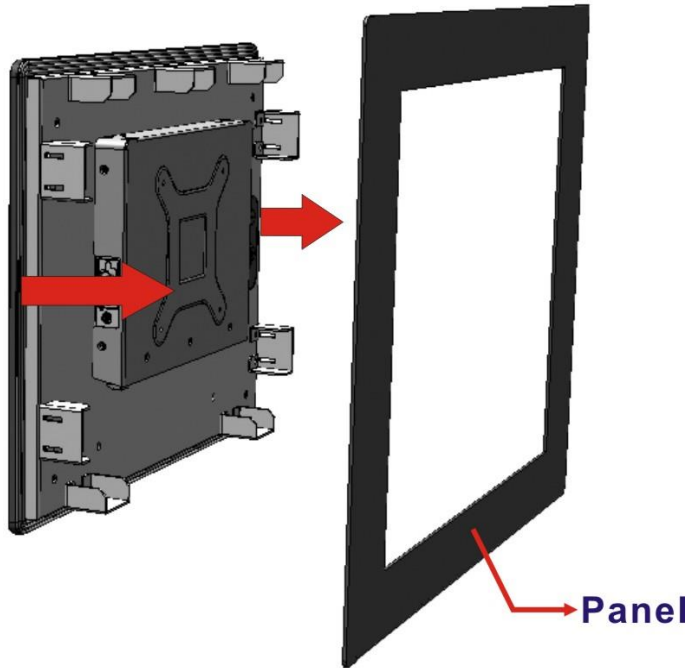

Figure 3-25: Slide into the Panel
Step 4: Slide the monitor through the hole until the aluminum frame is flush against the panel (**Figure 3-25**).